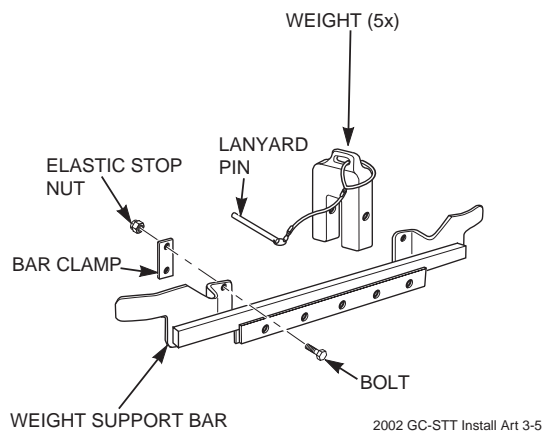

FIGURE 5-5
18. Install the weight assemblies to the weight support bar and secure them to the bar using the 1/2" x 6-1/4" pin and lanyard. See Figure 5-5